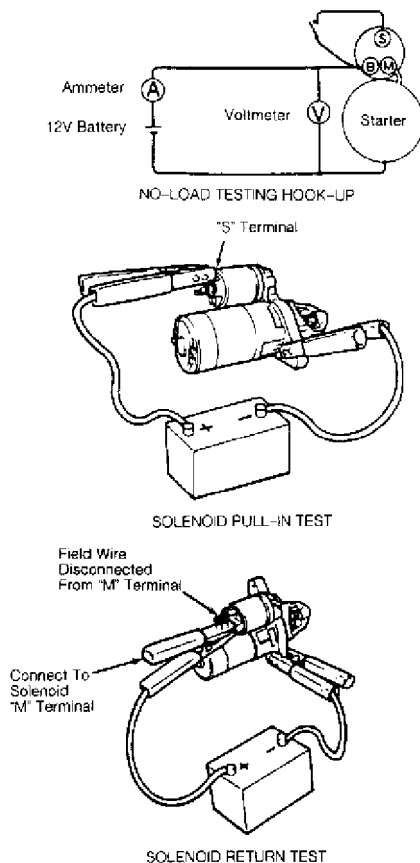

Fig. 2: Testing Reduction Gear Starter Circuits
Connect fully-charged 12-volt battery, voltmeter and ammeter to starter. See Fig. 2. Using remote starter wires or jumper, engage solenoid. Starter should spin smoothly. Compare readings with specifications. See NO-LOAD TEST SPECIFICATIONS table. If voltage is less than specified, amperage is more than specified or shaft speed is
See Fig. 2.
Connect positive battery lead to solenoid "S" terminal and negative battery lead to starter body. See Fig. 2. Starter pinion drive gear should extend quickly and maintain this position. If starter pinion drive gear does not extend, replace solenoid.
Connect positive battery lead to solenoid "M" terminal and ground negative battery lead to starter body. See Fig. 2. Using screwdriver, pry overrunning clutch pinion drive outward. Release screwdriver and ensure overrunning clutch pinion drive returns to original position.
1) Disconnect field wire from solenoid "M" terminal. See Fig. 2. Connect positive battery lead to "S" terminal and negative